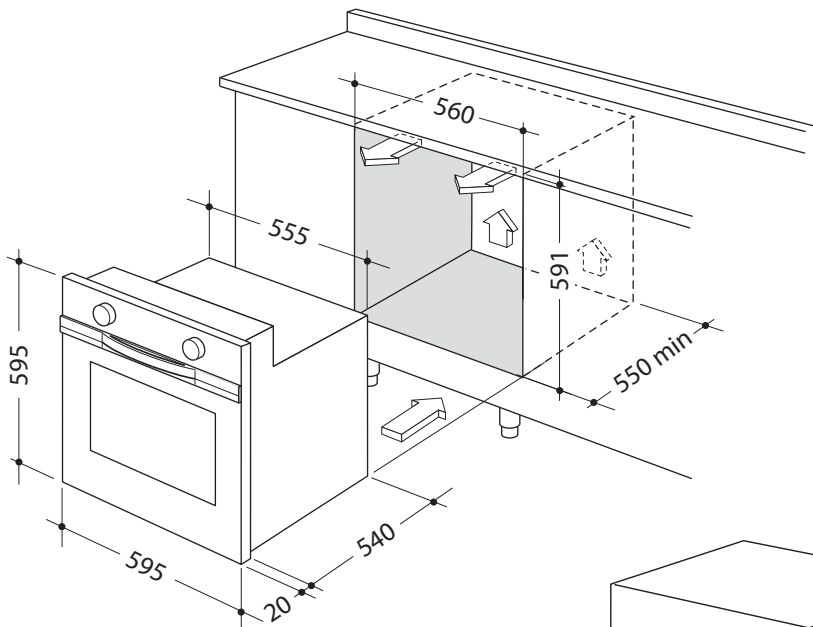

Fig. 5.1a
- Installation requires a compartment as illustrated in Figures 5.1a and 5.1b.